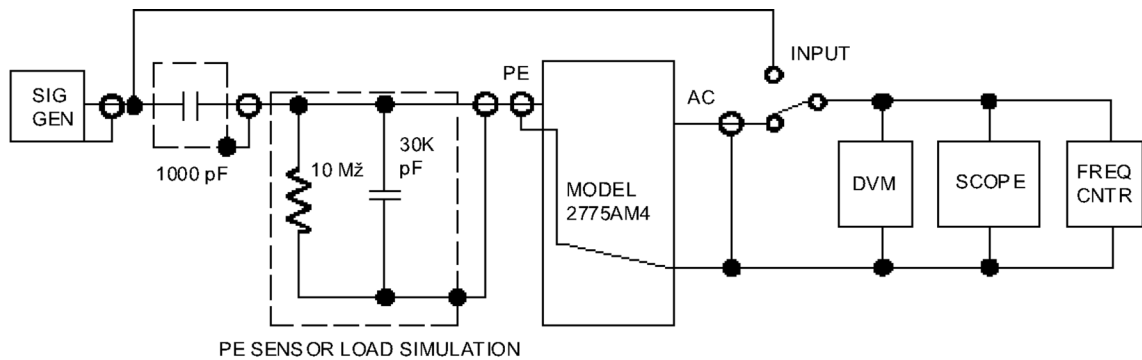

FIGURE 5-10: FREQUENCY RESPONSE
- A. The low frequency response must be measured using an oscilloscope or a special low frequency measurement device (such as a Solartron 1250 Frequency Response Analyzer). Set the SENSITIVITY switch to 1.00 and the FUNCTION switch to OUT CAL and adjust the AC OUTPUT for 1.000 Vrms. Set the FUNCTION switch to OP and adjust the signal input level to the 1000 ±1 pF shielded capacitor to read 1.00 Vrms at the AC OUTPUT (see Figure 5-10). Adjust the frequency and make the following readings: